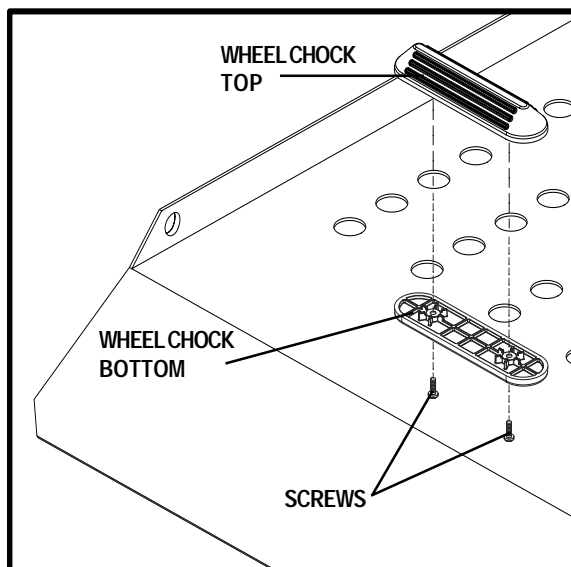

Figure 9. Wheel Chock Installation
6. Position the wheel chock bottom on the underside of the platform, aligning it with the wheel chock top. See figure 9.
7. Secure the wheel chock sections to the platform using the supplied hardware. See figure 9.